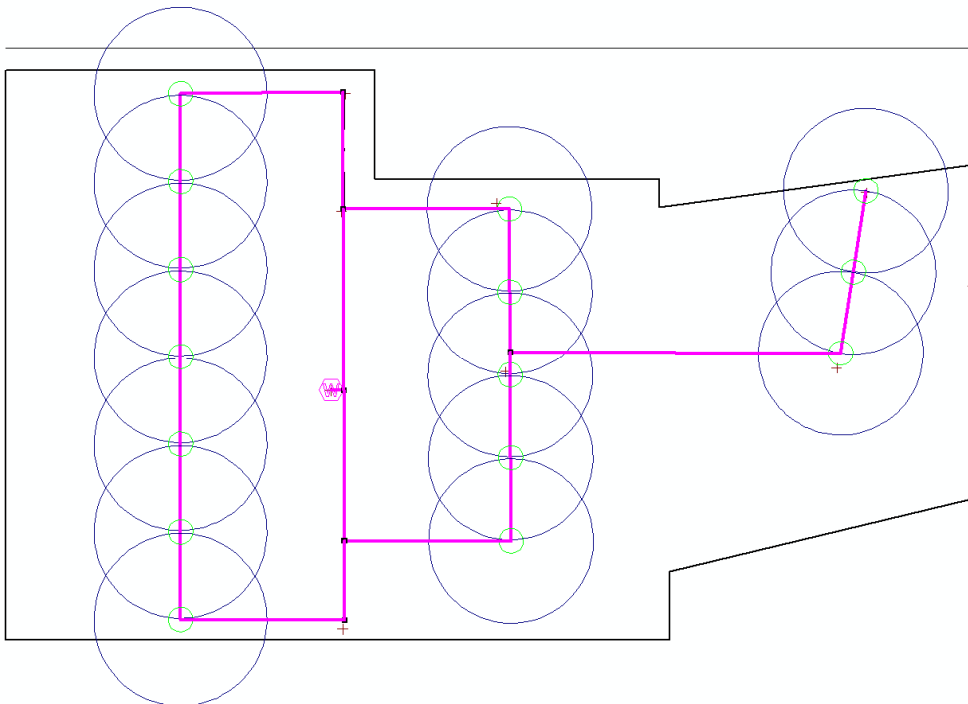

Figure TI 3
6. Now select *Mainline|Pipe* and run the pipe along the lines given, connecting the existing hydrants and pipe to each other. Connect the water supply to the closest pipe as in Figure TI 3.